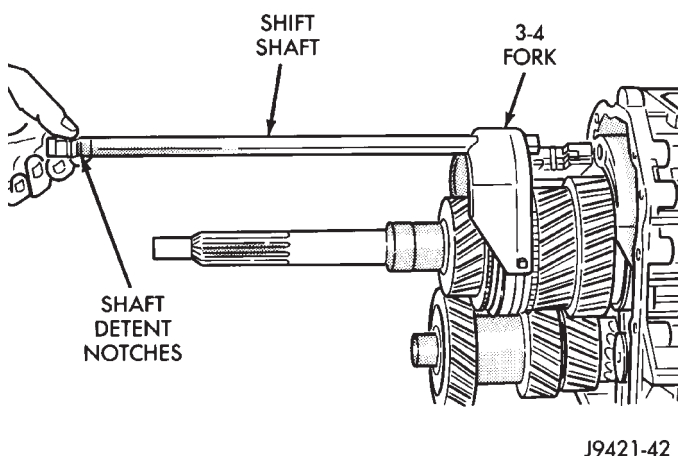

Fig. 104 Shift Shaft Installation
(3) Slide shift shaft through 3-4 shift fork (Fig. 104). Be sure shaft detent notches are to front.